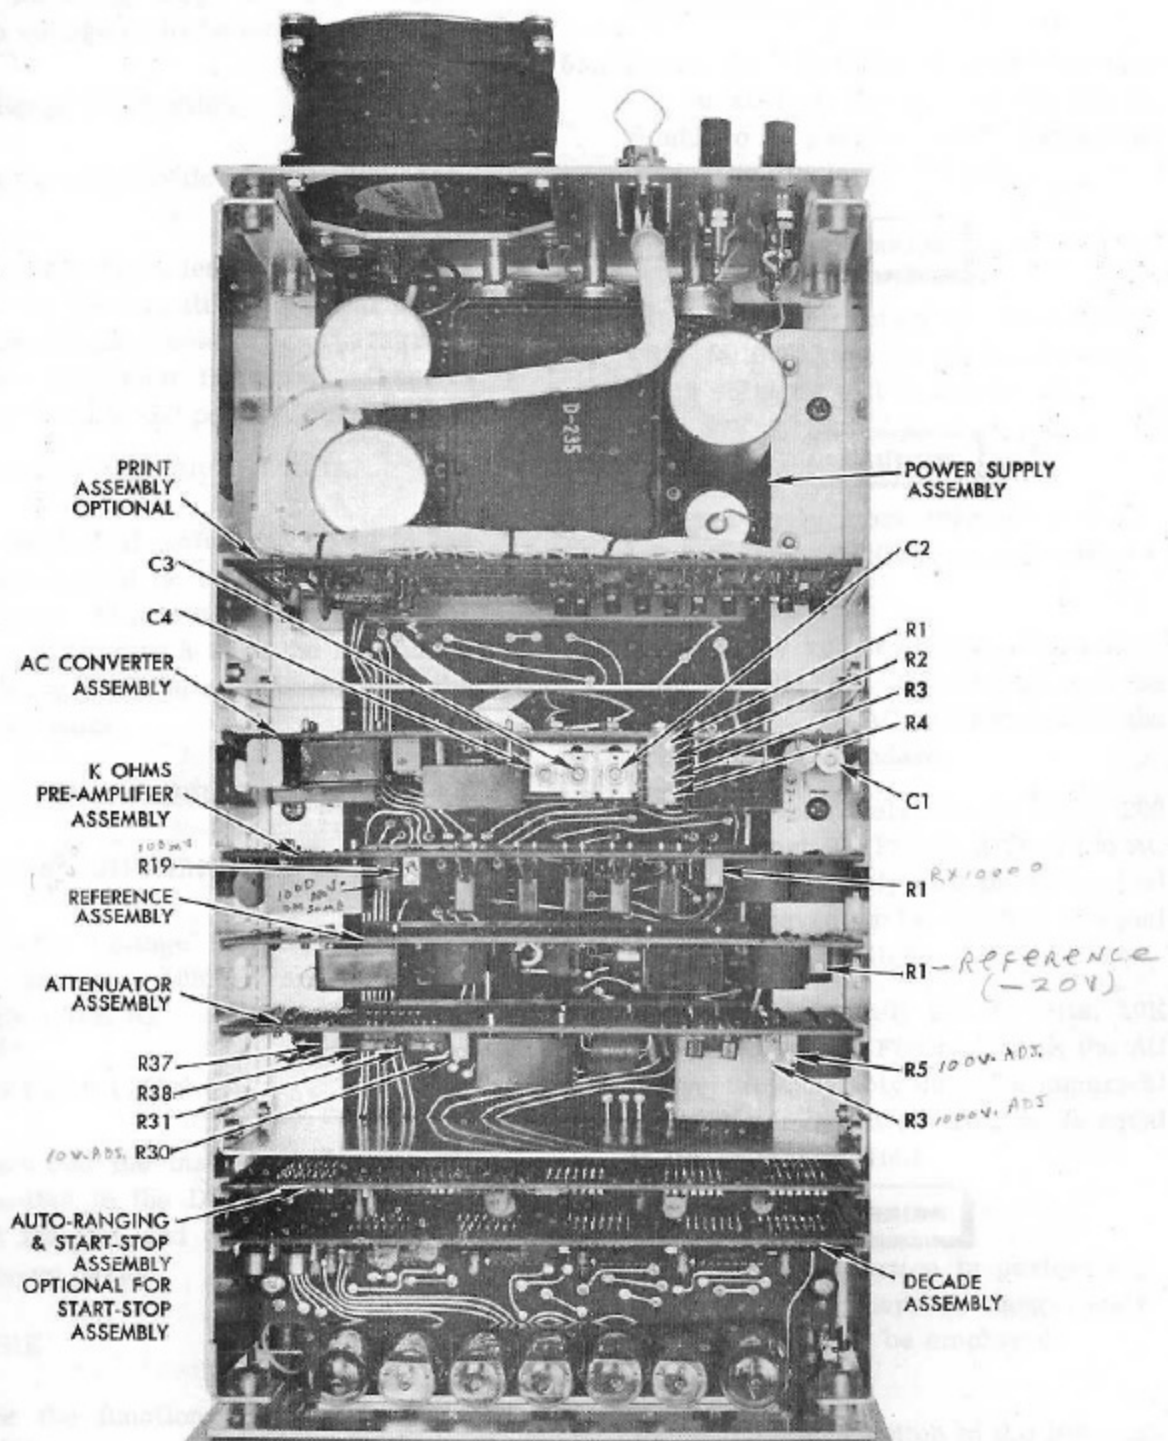

Figure 3-2. Location of Major Subassemblies and Adjustment Points
1. Remove the reference assembly, P/N 37-36, from instrument (Figure 3-2).
3. The numerical value displayed in the readout should be equal to the voltage of the voltage standard. If it is not, adjust potentiometer R30 (Figure 3-2) of the Attenuator Assembly, P/N37-39, until the readout displays the correct value. Note that input impedance of DVM is 10 Megohms.
Potentiometers R31 and R38 (Figure 3-2) have been adjusted and sealed at the factory and must not be adjusted in the field. They are temperature coefficient compensators for the \pm prime calibration.
4. The numerical value displayed in the readout should be equal to the voltage standard. If it is not, adjust potentiometer R3 (Figure 3-2) of the Attenuator Assembly until the readout displays the correct value.
7. Apply approximately 450.00 volts, 200 Hz and adjust R1 (Figure 3-2) of the AC Converter Assembly until the numerical value displayed in the readout is equal to the voltage applied.
8. Apply approximately 450.00 volts, 10K Hz and adjust C1 (Figure 3-2) of the AC Converter Assembly until the numerical value displayed in the readout is equal to the voltage applied.
9. Place the range switch in the 100 position. Apply approximately 90.00 volts, 200 Hz and adjust R2 (Figure 3-2) of the AC Converter Assembly until the
10. Apply approximately 90.00 volts 10 K Hz and adjust C2 (Figure 3-2) of the AC Converter Assembly until the numerical value displayed in the readout is equal to the voltage applied.
11. Place the range switch in the 10 position. Apply approximately 9.000 volts, 200 Hz and adjust R3 (Figure 3-2) of the AC Converter Assembly until the numerical value displayed in the readout is equal to the voltage applied.
13. Apply approximately 0.9000 volts, 200 Hz and adjust R4 (Figure 3-2) of the AC Converter Assembly until the numerical value displayed in the readout is equal to the voltage applied.
14. Apply approximately 0.9000 volts, 10K Hz and adjust C4 (Figure 3-2) of the AC Converter Assembly until the numerical value displayed in the readout is equal to the voltage applied.
7. Apply approximately 9000 K Ω and adjust R1 (Figure 3-2) of the Ohms Converter and Pre-amplifier Assembly until the numerical value displayed in the readout is equal to the ohmic value applied.
Pre-amplifier Assembly (Figure 3-2) until the numerical value displayed in the readout is equal to the voltage of the voltage standard.